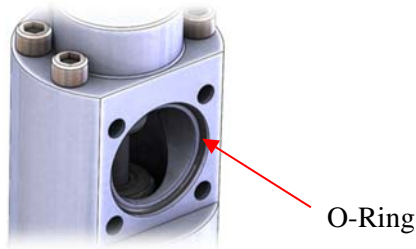

Figure 39: Pivot Block O-ring
- 3. Remove the pivot block. There will be an o-ring between the pivot block and the cap. Remove this o-ring and discard. See Figure 39.